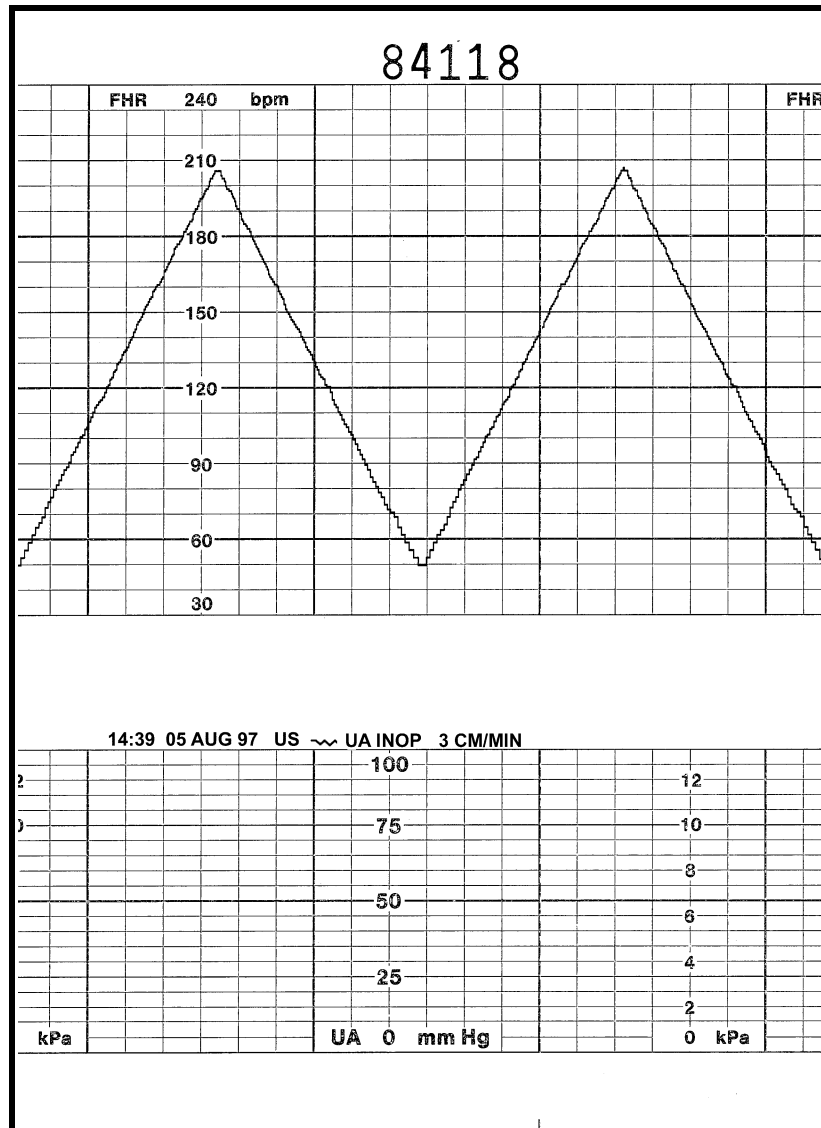

Figure 6-3. Ultrasound Ramp
6. Set the simulator's **US Rate** switch to the RAMP position. Verify that the FHR1 value counts between approximately 50 and 210 BPM and that the recorder prints a ramp between the same values. (Refer to Figure 6-3.)